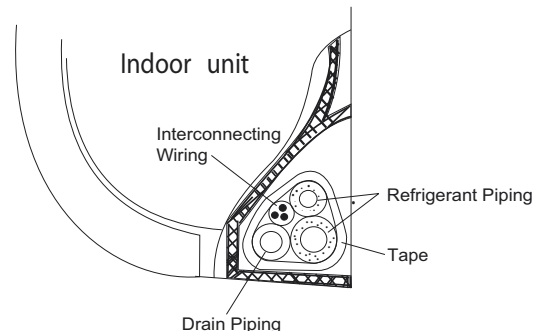

Fig. 16 – Proper Orientation
**NOTE:** For proper orientation of the refrigerant piping, electrical cable and drain lines, refer to Fig. 16.